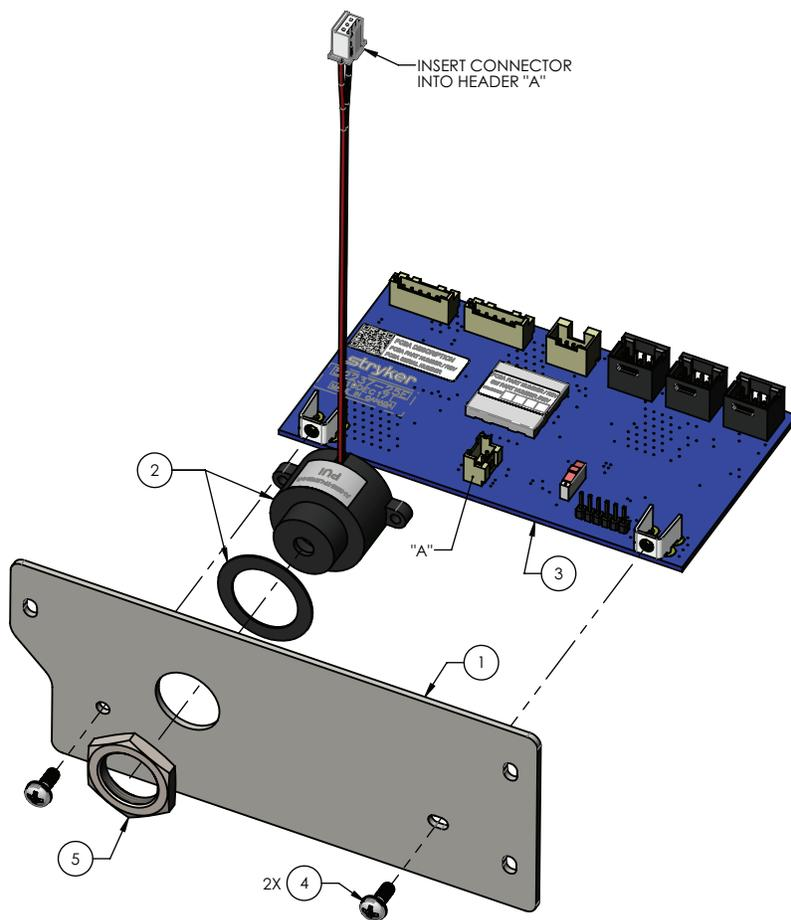

Figure 24 – AVB replacement
8. Using a #2 Phillips screwdriver, remove and save the screw (4) and nut (5) that secure the speaker (2) to the AVB assembly. Remove and save the speaker (Figure 24).